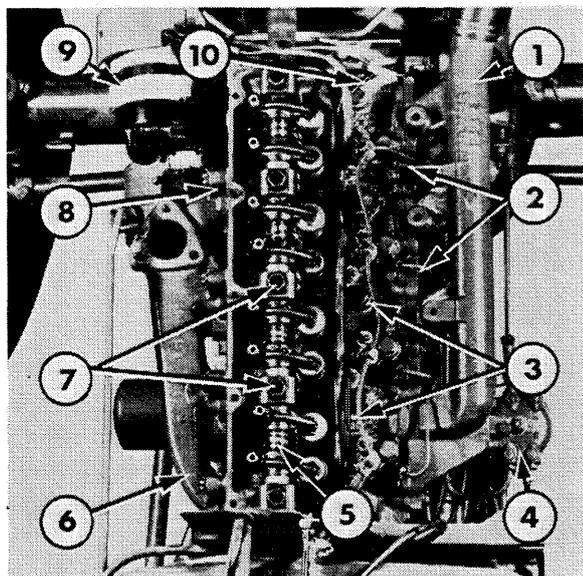

Figure 5
8. Remove the alternator and guard (where fitted), Figure 5.